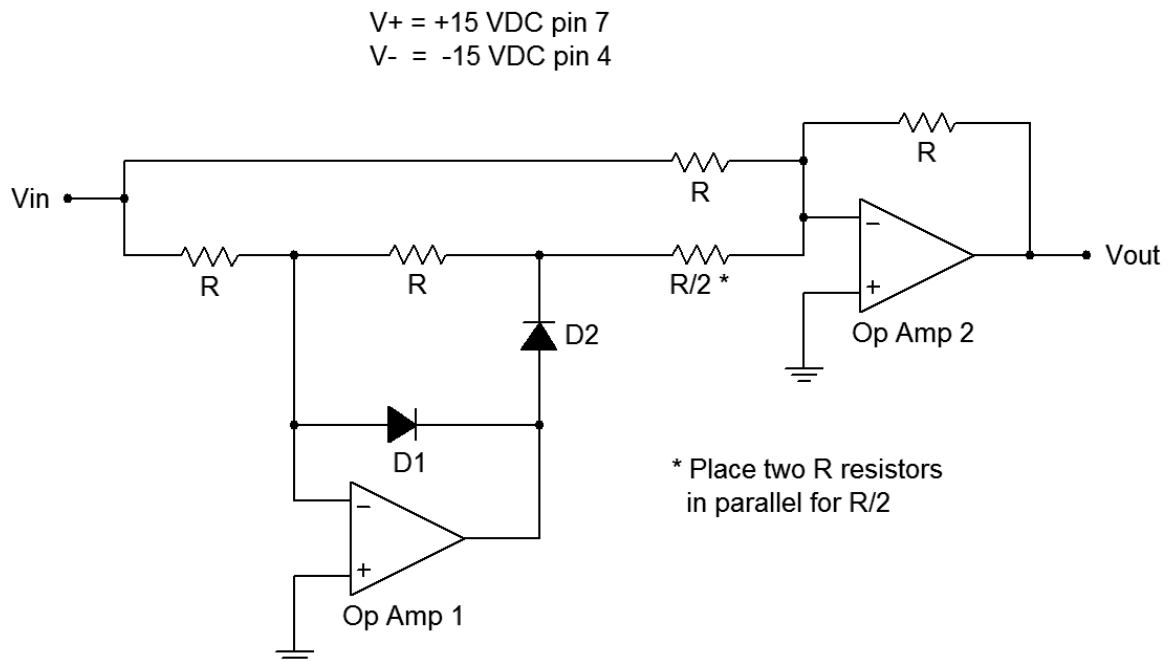

Figure 2
11. Decide on a value for R in Figure 2 and assemble it. The actual value of R is not critical. The important thing is that the resistors should be close in value, preferably within a few percent of each other.